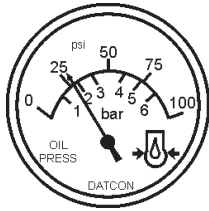

Figure 49. Oil Pressure Gauge
12. The engine oil pressure gauge (Figure 49) will indicate the oil pressure of the engine. Under normal operating conditions the oil pressure is approximately